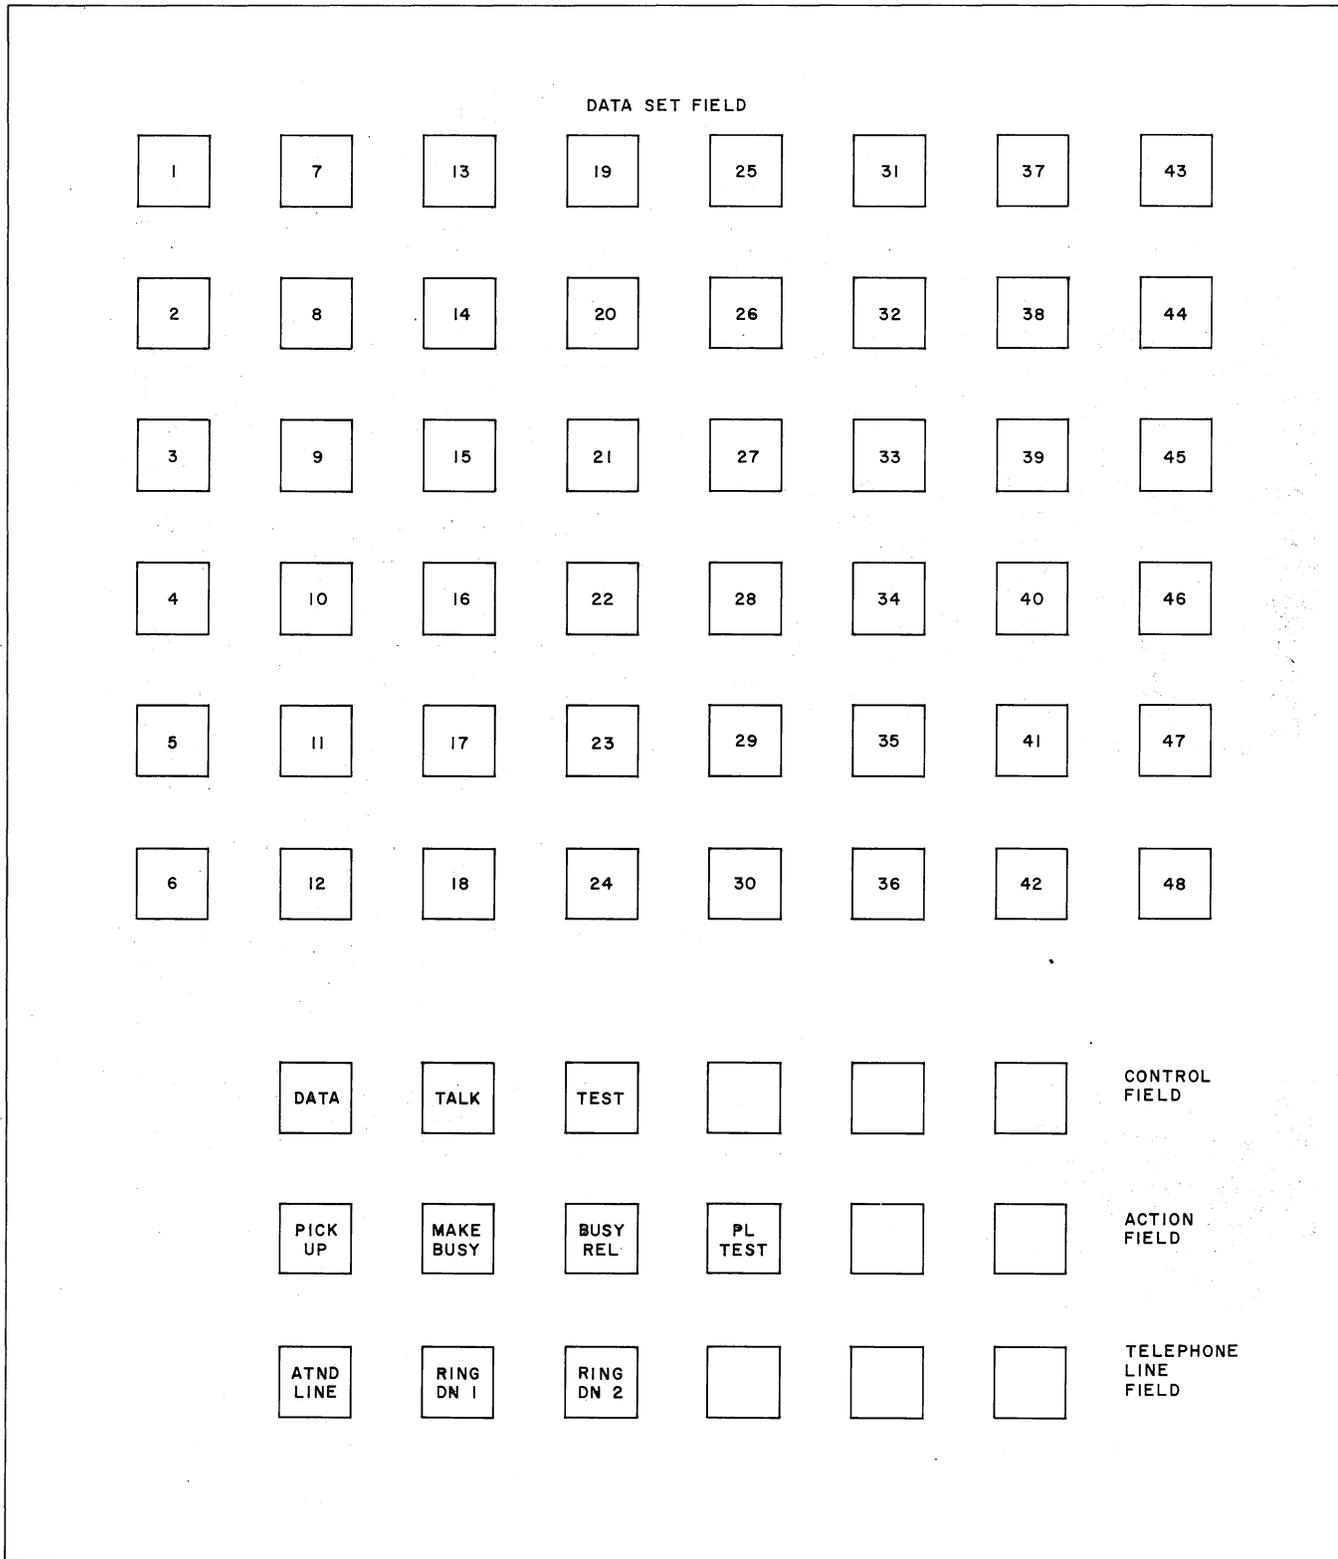

Fig. 8—Key Designations
**2.06** The Data Auxiliary Set 804L-type controls are shown by Fig. 8. These controls, i.e., pushbutton keys, are grouped into four groups according to function and are referred to as "fields" of keys. If a control console is used as part of the multiple data set installation, the console will be equipped with controls having similar designations and functions. If an 804L-type is being substituted for the control console, the designation will, of course, be identical to the designations shown by Fig. 8. The controls will be referred to in this practice as cabinet controls and console controls.